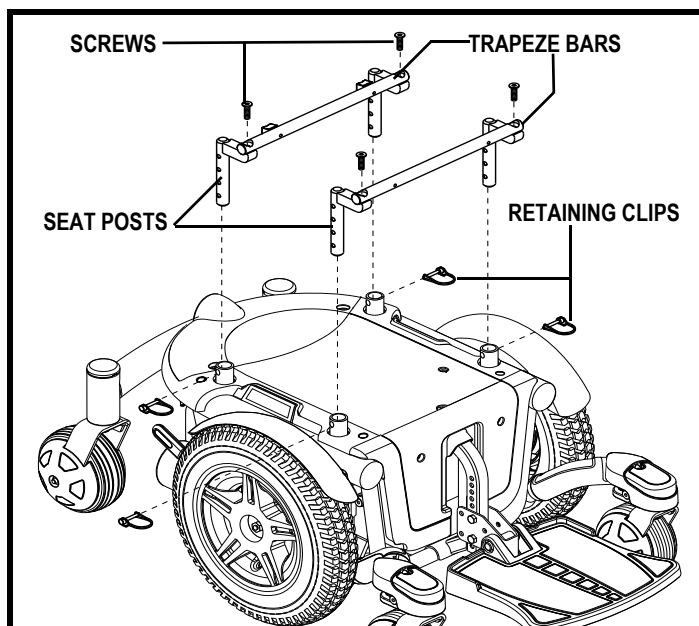

Figure 15. Seat Adjustment - Trapeze Bars
7. Loosen the screws that attach the trapeze bars to the seat posts. See figure 15.
8. Remove the retaining clips that secure the seat posts to the power base. See figure 15.